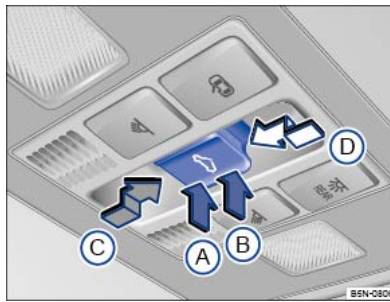

Fig. 76 In the roof: button for the glass roof.
- **Tilting the glass roof:** push the button ⇒ Fig. 76 Ⓢ to position 1. One-touch function: push button Ⓢ to position 2.